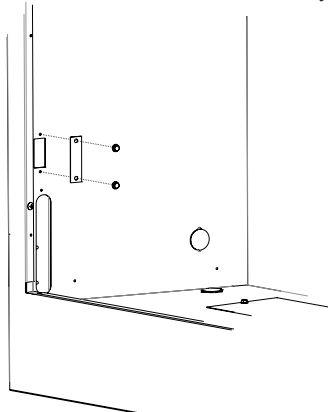
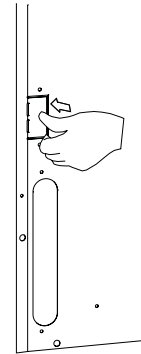

Figure 2a
Figure 2b
2. Remove the cover plate on the left side of the firebox and discard. See Figure 2a. Some units will not have a cover plate. For those units, bend the tab out of the way. See Figure 2b